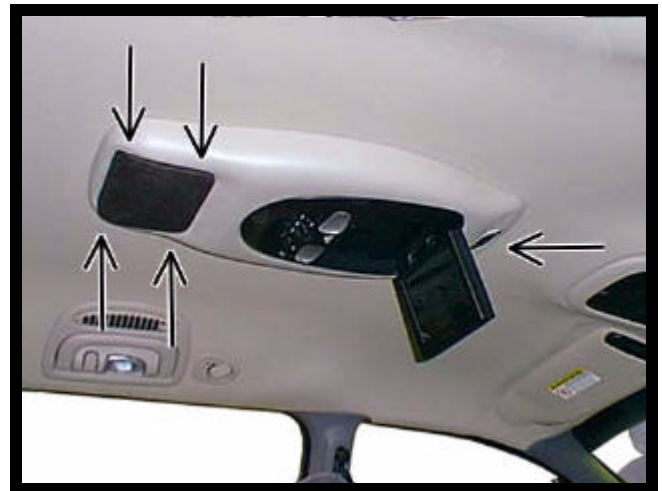

FIGURE 8
18. Install speaker grille (item 8 pg 2). Align clips in grille with holes in console and press firmly. See Figure 8.
19. If speaker upgrade kit was not installed, install cover plate (item 9 pg 2) at front of console and secure using (2) two # 6 X 1/2" screws (item 5 pg 2).
20. Install cover plate decal (item 10 pg).